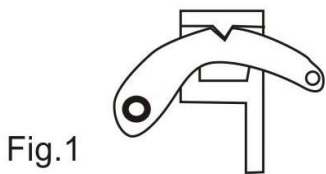

Fig.1
1. Following all safety precautions, place the foot of the jack beneath the load. Lift the Reversing Latch (20) to its "UP" position and ensure it is locked in place, with the indentation in the Latch firmly engaged in the notch on the Reversing Switch (18)-refer to fig.1. Jack up the nose until it comes into contact with the load at the desired point of the lift. Pause at this stage and check to ensure no obstacles to a clean lift.
2. Pull down firmly and evenly on the handle and observe the load rising. As the handle is pulled down, you will hear the climbing pin(15) click into place as it is located in a hole in the steel bar(3). At this point, relax the handle allowing the pin(15) to take the load. Raise the handle to the top of its stroke to take a fresh purchase, and pump the handle once again.